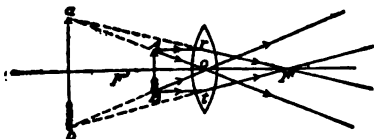

FIG. 384.—Construction of a virtual image by a convex lens.
the object is at  $P$  the rays become parallel and no image is formed. (E) When the object is between  $P$  and the lens, the rays *appear to proceed from points back of the object*, thus forming an *erect, larger, virtual image* of the object. (See Fig. 384.) This last arrangement illustrates the *simple microscope*.